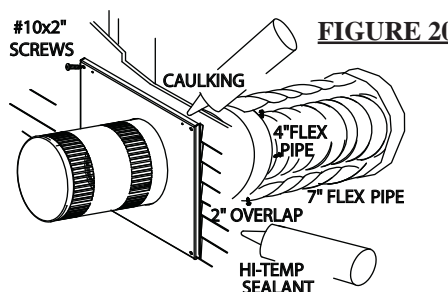

FIGURE 20
4. If more vent pipe needs to be used to reach the fireplace, couple them together as illustrated in (Fig. 20). The vent system must be supported approximately every 3 feet for both vertical and horizontal runs. Use non-combustible strapping to maintain the minimum 1" clearance to combustibles.